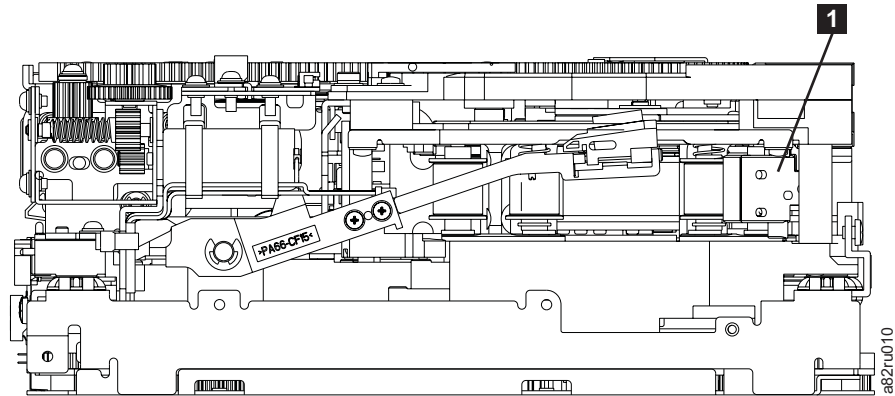

Figure 175. Leader Block Assembly (LBA)
- ___ 9. Rotate the threader motor worm gear (**4** in Figure 174 on page 290) to turn the threader mechanism gear (**6** in Figure 174 on page 290) counterclockwise. This moves the LBA out of the cartridge and past the read/write head. Stop this rotation when the LBA is near the tape guide roller nearest the rear of the drive shown as **1** Figure 175.